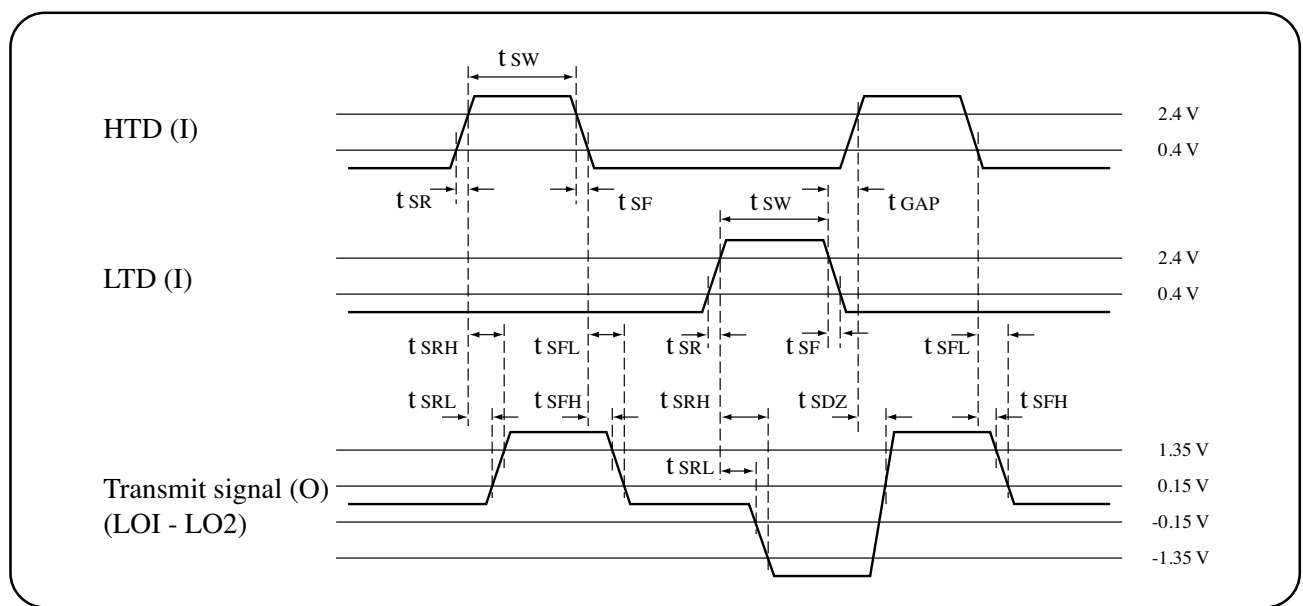

Figure 5.3 Transmit Timing
**Note 2** Figure 5.3 shows the timing when TDP = “H”. When TDP = “L”, the output signal polarity from HRD and LRD pins are inverted.